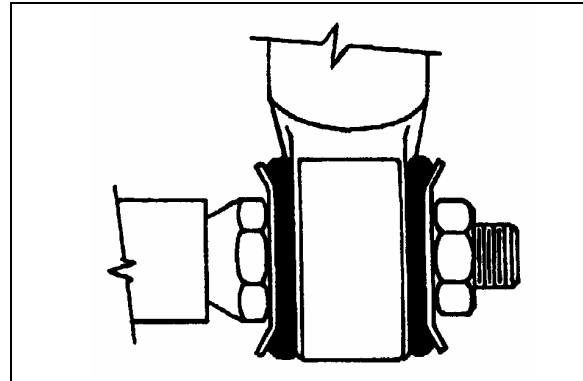

FIGURE 33: TYPICAL SHOCK ABSORBER SETUP
3. Place the inner washers (with washer convex side facing the shock absorber rubber bushing) on each shock absorber pin (Fig. 33).